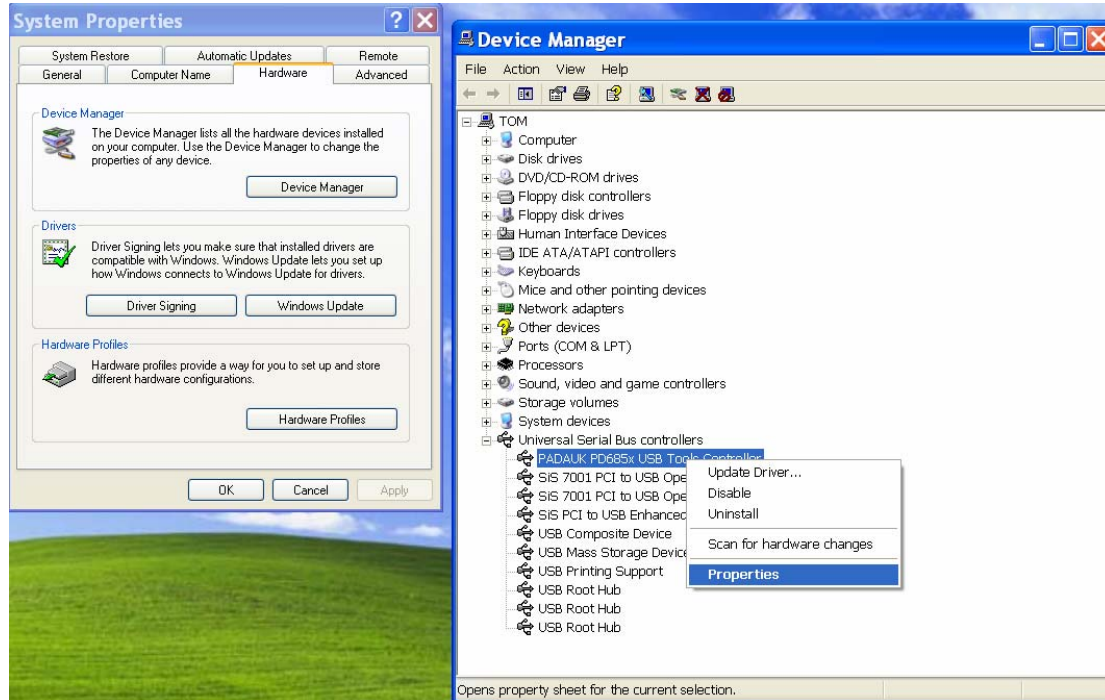

Fig.3-8 : Select Properties of PADAUK PD685X USB Tools Controller
Step 3 : Click the folder of **【Universal Serial Bus Controllers】** , then use mouse right button to select **【Properties】** of PADAUK PD685X USB Tools Controller ; The window will be shown as Fig.3-8 .